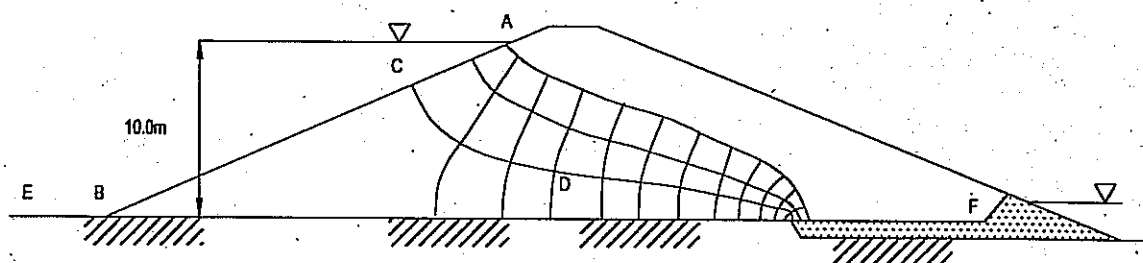

Figure Q3
Figure Q3 shows a flow net for flow through a homogeneous earth dam with a filter drain founded on impervious stratum.
- Compute the seepage flow per meter length through the dam using the expression developed in Q3(d) for the "square" flow net in Figure Q3. Take the coefficient of permeability as 5.2×10^{-4} cm/s. (2 marks)